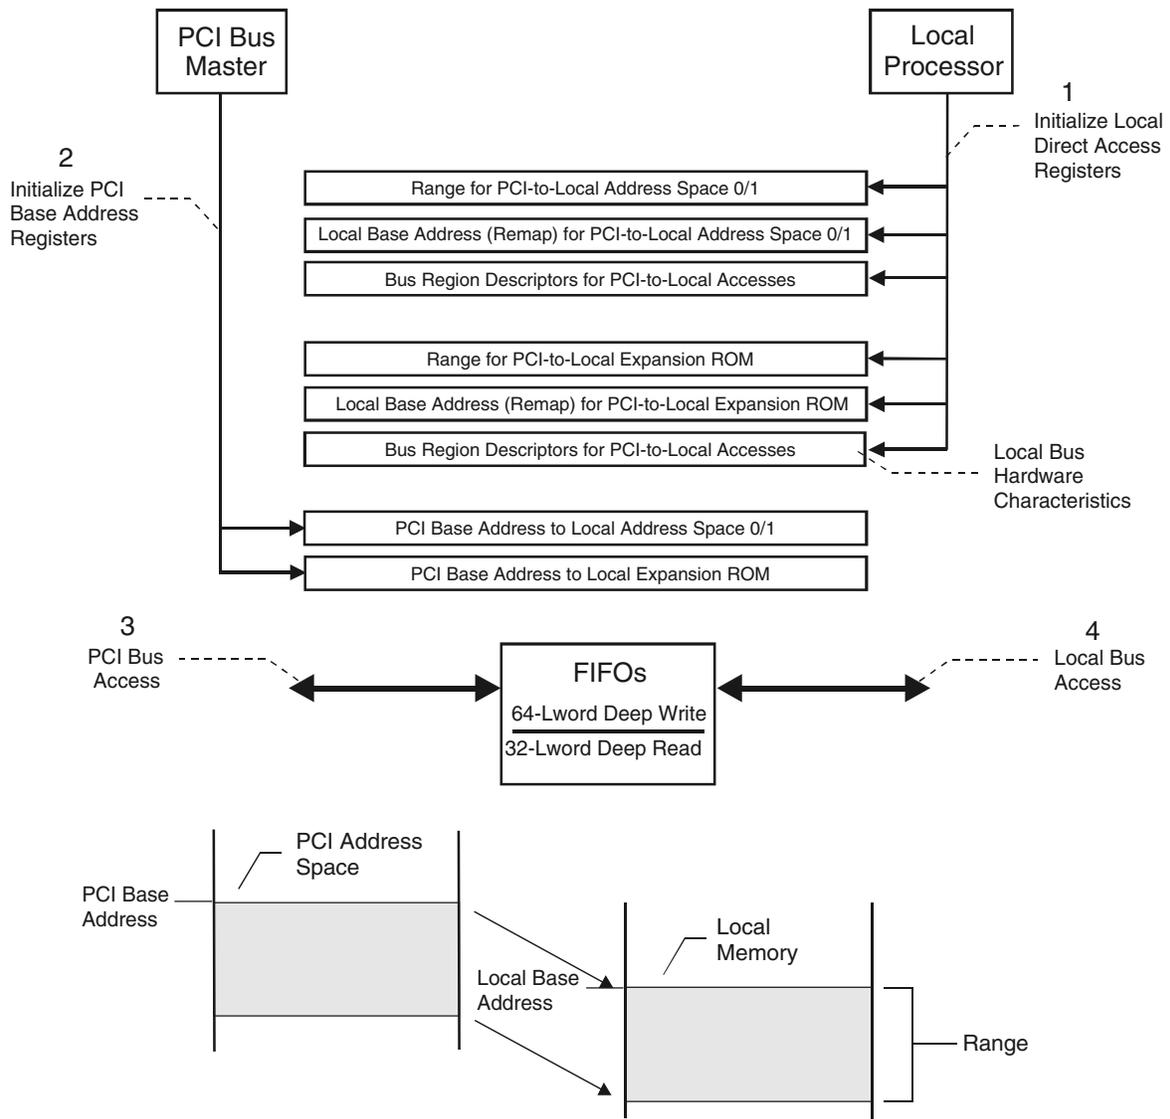

Figure 5-10. Local Bus Direct Slave Access
A fourth register, the Bus Region Descriptor register(s) for PCI-to-Local Accesses (LBRD0 and/or LBRD1), defines the Local Bus characteristics for the Direct Slave regions. (Refer to Figure 5-10.)
After a PCI reset, the software determines how much address space is required by writing all ones (1) to a PCI Base Address register and then reading back the value. The PCI 9056 returns zeroes (0) in the Don't Care Address bits, effectively specifying the address space required. The PCI software then maps the Local Address space into the PCI Address space by programming the PCI Base Address register. (Refer to Figure 5-10.)